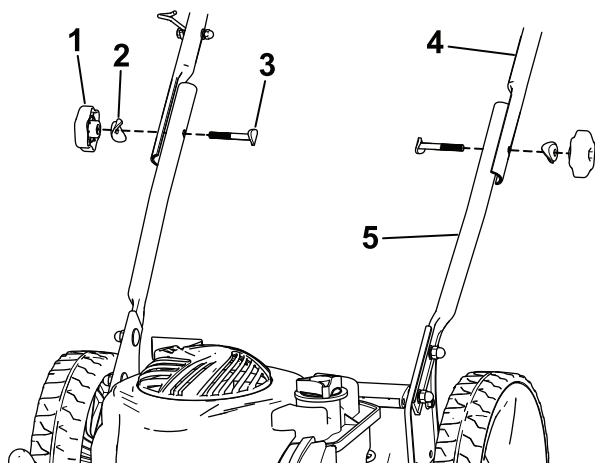

Figure 4
2. Attach the upper handle to the lower handle using 2 handle knobs, 2 curved washers, and 2 bolts. Tighten the handle knobs securely by hand (Figure 4).